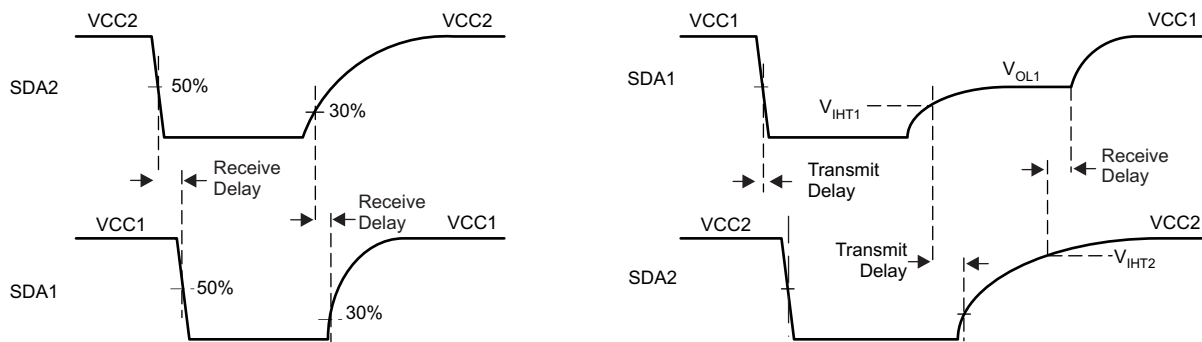

Figure 26. SDA Channel Timing in Receive and Transmit Directions
Figure 26 demonstrate the switching behavior of the I²C isolator, ISO1540, between a master node at SDA1 and a heavy loaded bus at SDA2.
8.4.1 Receive Direction (Left Diagram of Figure 26)
8.4.2 Transmit Direction (Right Diagram of Figure 26)